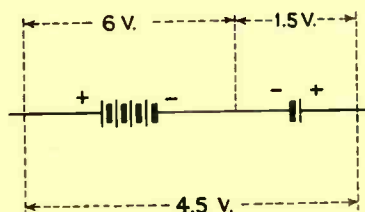

FIG. 10
**T**HE advent of individual C batteries for audio amplifying tubes, particularly the 40.5 volt C bias required for the 171 output tube has often caused the necessity of placing opposing voltages in series circuits in order to obtain the desired voltage. That is to say, two sets of batteries are arranged in a manner which permits the reduction of the maximum potential of one battery, by virtue of the opposing action of another battery whose polarity is reversed with respect to the first battery. This is shown schematically in Fig. 10. Here we see a battery supplying 6 volts and another battery supplying 1.5 volts. We note that the minus of the 6 volt battery is connected to the minus of the 1.5 volt battery and that the total voltage of the combination is only 4.5 volts. The action of the 1.5 volt battery is connected to oppose or "buck" the voltage of the 6 volt battery to the extent of 1.5 volts. Expressed differently 1.5 volts of the 6 volt battery is balanced out by the 1.5 volt battery, the resultant voltage being 4.5 volts. This state is found only when the batteries are connected so that their polarities buck each other, as for example the minus of the 6 volt battery being connected to the minus of the 1.5 volt battery.